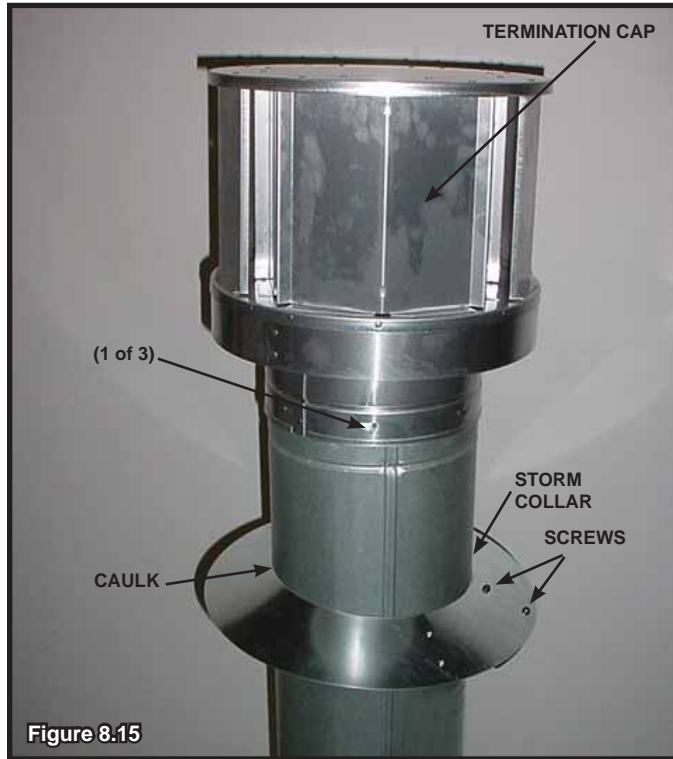

Figure 8.15
- Caulk around the top of the storm collar (see Figure 8.15).
- Secure the cap by driving three self-tapping screws (supplied) through the pilot holes in the outer collar of the cap into the outer flue of the pipe (see Figure 8.15).